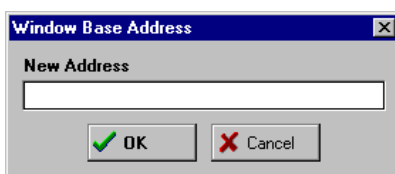

Figure 6-5. Window Base Address Dialog
- **Set PC at Cursor:** Choose this option to set the Program Counter (PC) to the current cursor location.
- **Gotil Address at Cursor:** Choose this option to execute the source code until the Program Counter (PC) gets to the line at the current cursor location. When PC gets to that point, execution stops.
- **Set Base Address:** Choose this option to open the *Window Base Address* dialog (Figure 6-5) and set the new address for the first code line in the Code Window.